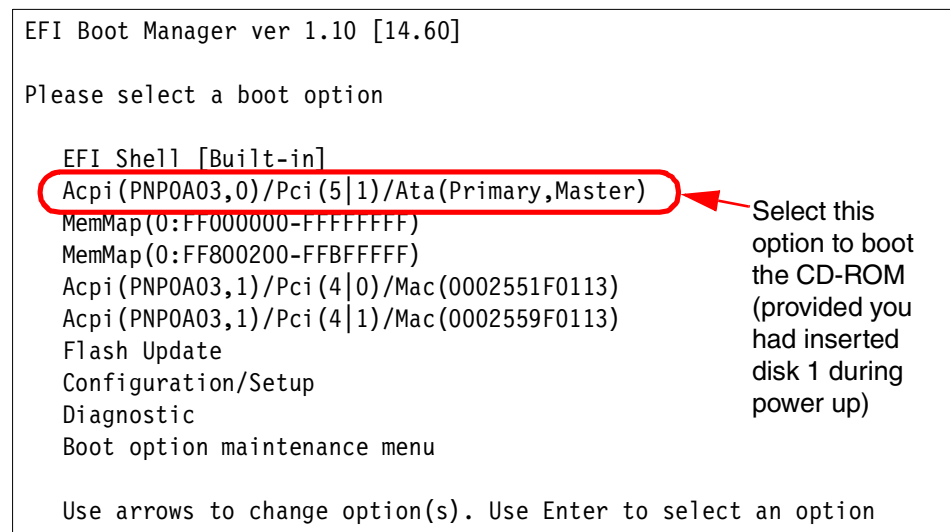

Figure 4-16 EFI Boot Manager — select this option to boot from the CD-ROM
2. Wait for the EFI Boot Manager menu to appear (Figure 4-16).